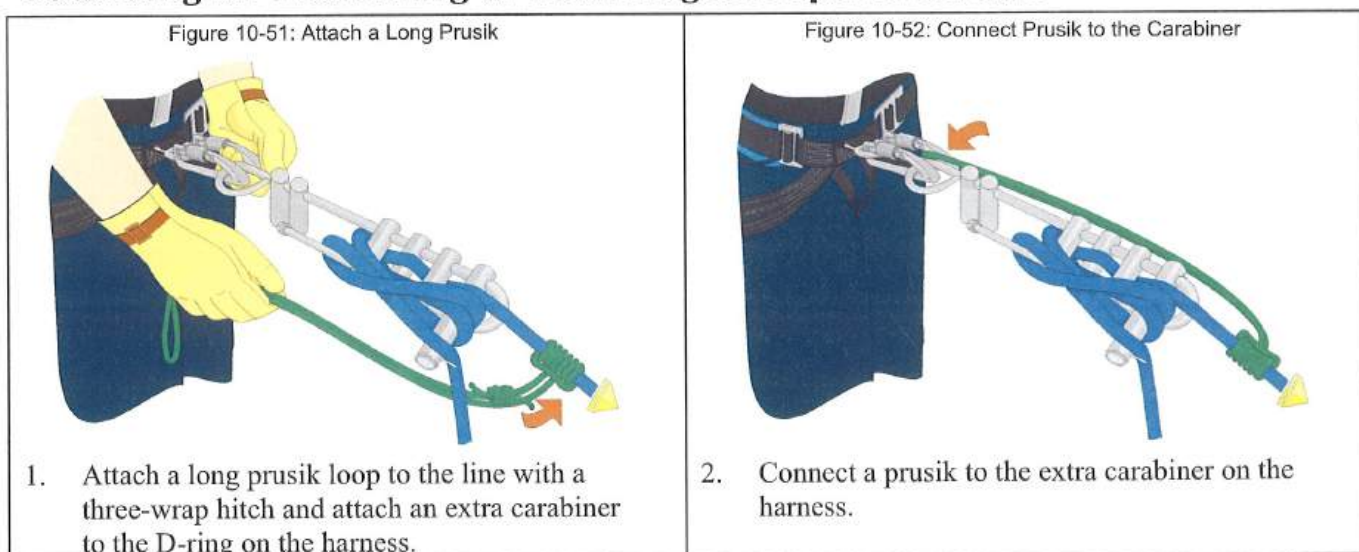

Figure 10-53: Slide Prusik Hitch up the Line
3. Slide the prusik hitch up the line with one hand while pulling the running end taut with the other hand. (Figure 10-53)